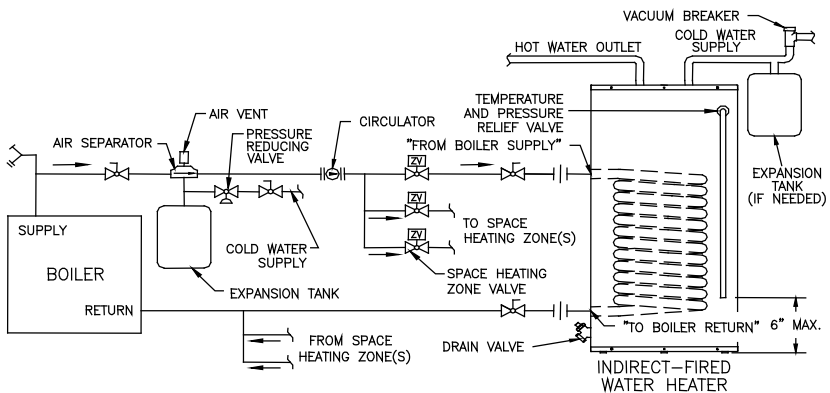

Fig. 2
1. For a space heating system that utilizes ZONE VALVES, refer to Figure 2. The indirect-fired water heater connection labeled “FROM BOILER SUPPLY” should be piped to the boiler supply piping. Mount the circulator making sure the flow arrow points toward the water heater. The use of shut-off valves and unions are recommended for future service convenience. The use of an air separator and vent is recommended to eliminate air in the system. Pipe and fittings between the boiler and indirect-fired water heater must be $\frac{3}{4}$ ” diameter or larger.